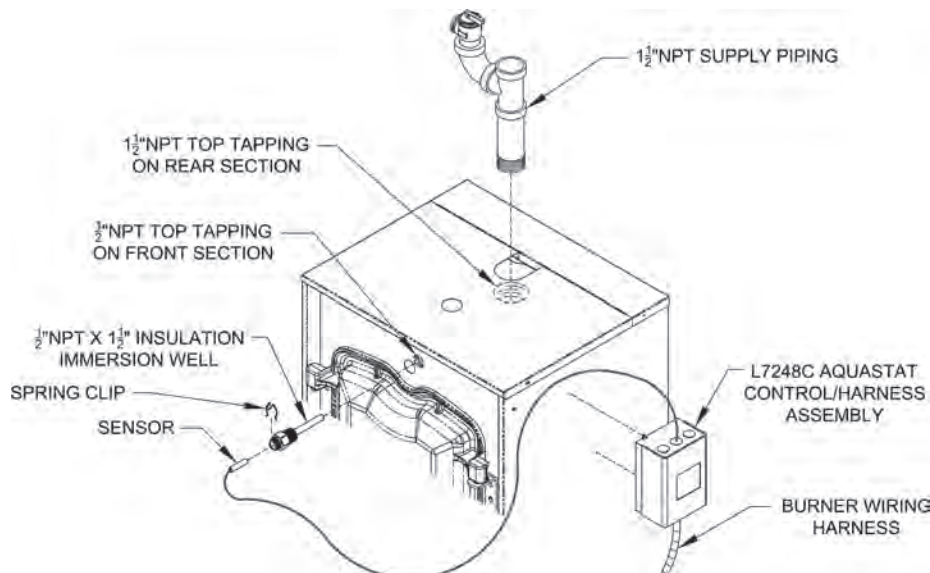

Figure 5A: Supply Piping and Aquastat Control Assembly Details
Open miscellaneous parts carton and remove contents. Identify the components using the illustrations (see Figure 5A) throughout the assembly sequence outlined below as it applies to your installation.
1. Install supply piping and relief valve, refer to Figure 5A.
2. Install Aquastat Control, refer to Figure 5A.
Step a. Locate the L7248C Aquastat Control/Harness Assembly. Refer to Paragraph D for Swing Door Hinge placement. Secure aquastat control to the hinge side **Side Panel** with supplied sheet metal screws as shown in Figure 5A.